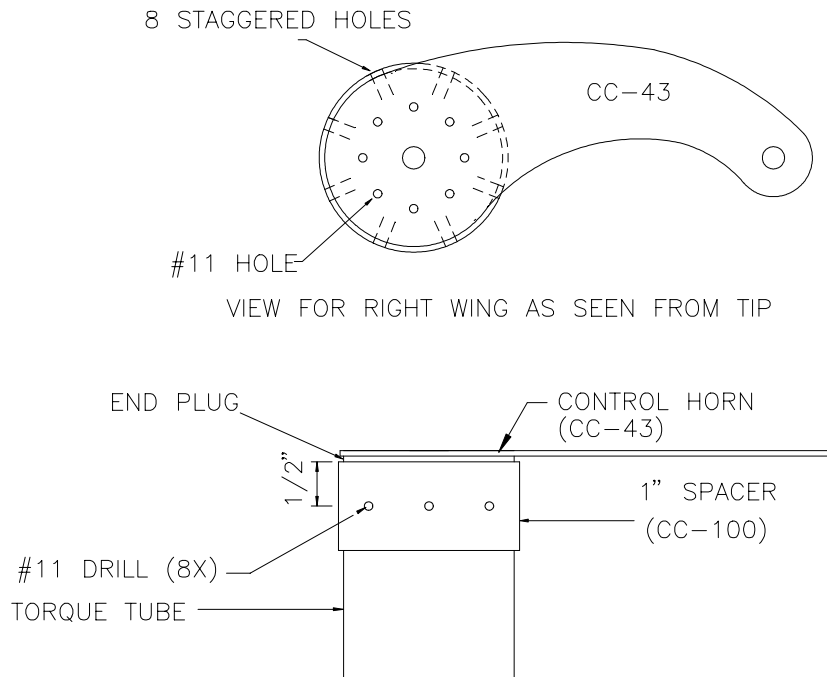

Figure 8.10.3
- 5) Stagger the holes in the Sleeve with the holes in the End Plug and drill to #30 and then to #11. Figure 8.10.3.